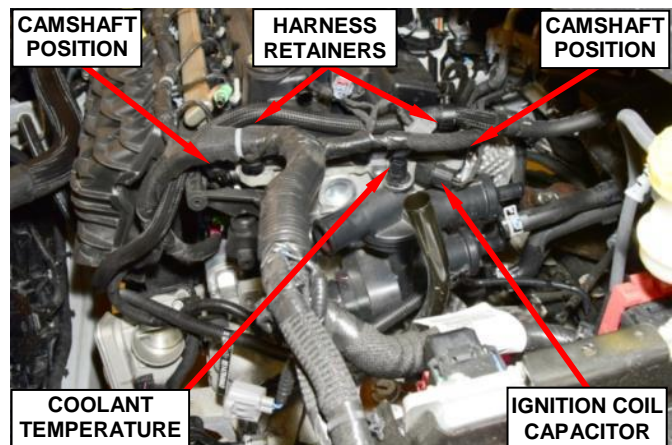

Figure 81 – Engine Wire Harness
47. Disconnect the engine wire harness from both camshaft position sensors (Figure 81).
48. Disconnect the engine wire harness from the engine coolant temperature sensor (Figure 81).
49. Disconnect the engine wire harness from the ignition coil capacitor (Figure 81).
50. Release the two engine wire harness retainers from the valve cover studs (Figure 81).